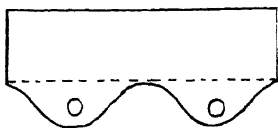

FIG. 4
(1) The wheels can be rigidly fixed to the axle—that is, a match end is pushed tight into the cardboard wheel and the axle is free to turn in loose bearings, as in Fig. 4, fixed under the cart or other vehicle or to the sides. These bearings can be cut from cardboard or cartridge paper.
In Fig. 4 the paper is bent at a right angle along the dotted line, and the rectangular portion is gummed under the cart. If the rectangular portion is gummed to the side of the cart no bend is needed. The parts of the match sticks that pass through the holes must be rounded with sand-paper so that they will turn easily in the holes.